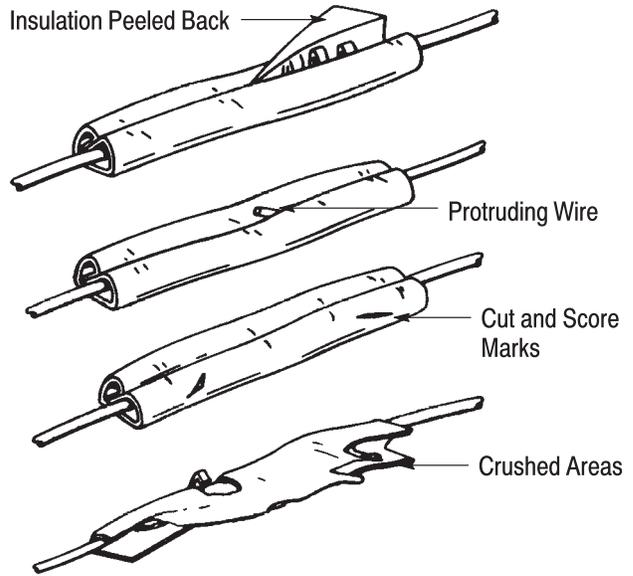

Figure 6
4.2. Visual Inspection (Refer to Figure 6)